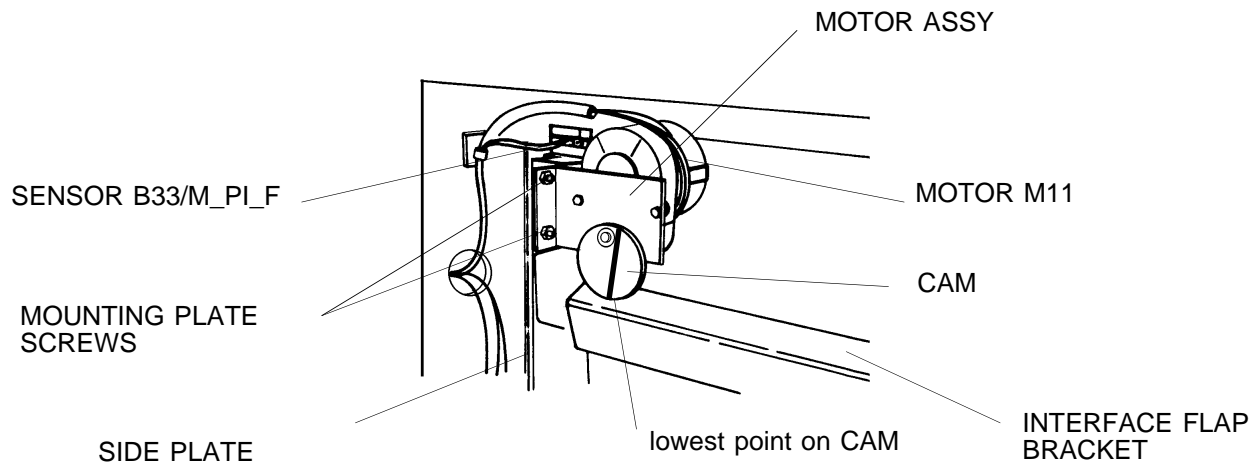

figure 20
5. While the CAM is turning, make sure that the SIDE PLATE (figure 20) is moving only slightly when the CAM is touching the INTERFACE FLAP BRACKET. If necessary, go back to step 3.
The INTERFACE FLAP MOTOR should stop when the INTERFACE FLAP is closed. this is basically correct. However, especially when operated with 60 Hz the INTERFACE FLAP MOTOR M11 does not stop immediately and the SENSOR B33/M_PI_F may be released. If now the next CASSETTE is unloaded, the CASSETTE TASK believes that the INTERFACE FLAP is already open. In this case the FLAP is not opened and the FILM falls into the area of the FILM POCKET. To avoid this failure, adjust SENSOR B 33 so that the MOTOR M11 is stopped reliably, before the CAM reaches the lowest position (figure 20).